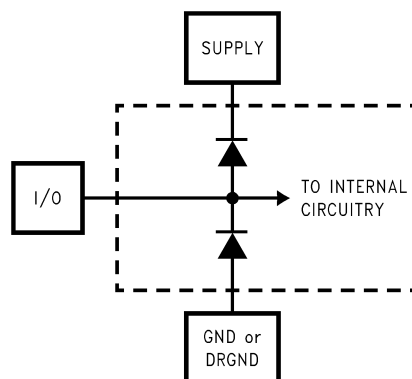

Figure 1.
- (1) The inputs are protected as shown below. Input voltage magnitudes above V_A or below GND will not damage this device, provided current is limited per ⁽¹⁾. However, errors in the A/D conversion can occur if the input goes above V_A or below GND by more than 100 mV. As an example, if V_A is 4.75V, the full-scale input voltage must be $\leq 4.85V$ to ensure accurate conversions. See Figure 1
- (2) To guarantee accuracy, it is required that $|V_A - V_D| \leq 100\text{ mV}$ and separate bypass capacitors are used at each power supply pin.
- (3) With the test condition for $V_{REF} = +2.0V$ (4V_{P-P} differential input), the 12-bit LSB is 977 μV .
- (4) Typical figures are at $T_A = T_J = 25^\circ\text{C}$, and represent most likely parametric norms. Test limits are guaranteed to TI's AOQL (Average Outgoing Quality Level).
- (5) Integral Non Linearity is defined as the deviation of the analog value, expressed in LSBs, from the straight line that passes through positive and negative full-scale.
- (6) Optimum performance will be obtained by keeping the reference input in the 1.8V to 2.2V range. The LM4051CIM3-ADJ (SOT-23 package) is recommended for this application.
- (2) To guarantee accuracy, it is required that $|V_A - V_D| \leq 100$ mV and separate bypass capacitors are used at each power supply pin.
- (4) Typical figures are at $T_A = T_J = 25^\circ C$, and represent most likely parametric norms. Test limits are guaranteed to TI's AOQL (Average Outgoing Quality Level).
- (5) Typical figures are at $T_A = T_J = 25^\circ C$, and represent most likely parametric norms. Test limits are guaranteed to TI's AOQL (Average Outgoing Quality Level).
- (6) I_{DR} is the current consumed by the switching of the output drivers and is primarily determined by load capacitance on the output pins, the supply voltage, V_{DR} , and the rate at which the outputs are switching (which is signal dependent). $I_{DR} = V_{DR}(C_0 \times f_0 + C_1 \times f_1 + \dots C_{11} \times f_{11})$ where V_{DR} is the output driver power supply voltage, C_n is total capacitance on the output pin, and f_n is the average frequency at which that pin is toggling.
- (7) Excludes I_{DR} . See previous note.
- (1) The inputs are protected as shown below. Input voltage magnitudes above V_A or below GND will not damage this device, provided current is limited per ⁰. However, errors in the A/D conversion can occur if the input goes above V_A or below GND by more than 100 mV. As an example, if V_A is 4.75V, the full-scale input voltage must be $\leq 4.85V$ to ensure accurate conversions. See Figure 1
- (4) Timing specifications are tested at TTL logic levels, $V_{IL} = 0.4V$ for a falling edge and $V_{IH} = 2.4V$ for a rising edge.